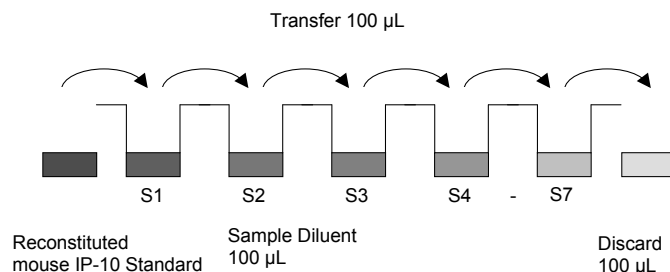

Fig. 1 Dilute standards - microwell plate
3. Add 100 µL of Sample Diluent in duplicate to all standard wells. Pipette 100 µL of prepared standard (see "Preparation of standard" on page 2), (concentration = 1000.0 pg/mL) in duplicate into well A1 and A2. Mix the contents of wells A1 and A2 by repeated aspiration and ejection (concentration of standard 1, S1 = 500.0 pg/mL), and transfer 100 µL to wells B1 and B2, respectively (see Figure 1). Take care not to scratch the surface of the microwells. Continue this procedure 5 times, creating two serially diluted columns of mouse IP-10 standard dilutions ranging from 500.0 to 7.8 pg/mL. Discard 100 µL from the last microwells (G1, G2). Final volume in all wells is 100 µL.